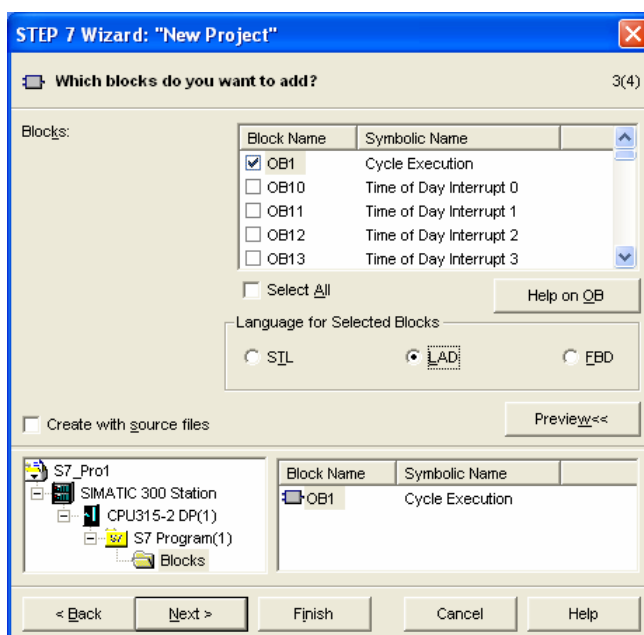

Figure 10-6
5. Select a language for selected blocks and click "Next", as Figure 10-6.